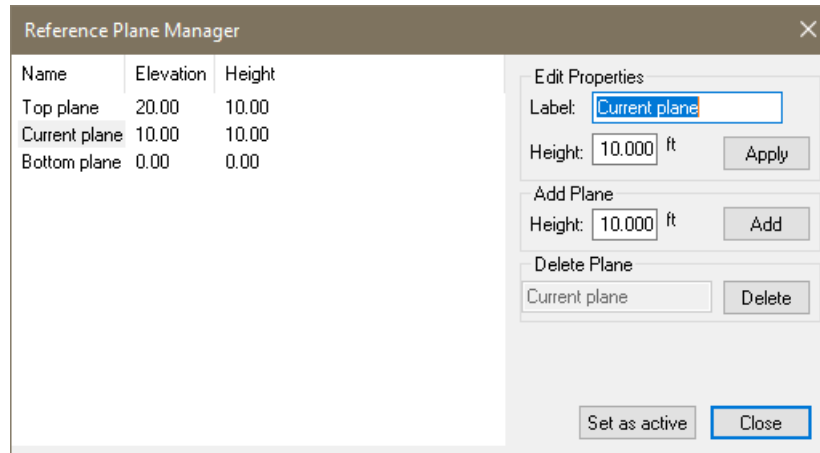

Figure 2-7
- Go to *Model* → *Level* and click on the *Story Manager* icon  to open the *Reference Plane Manager* shown in **FIGURE 2-7**.